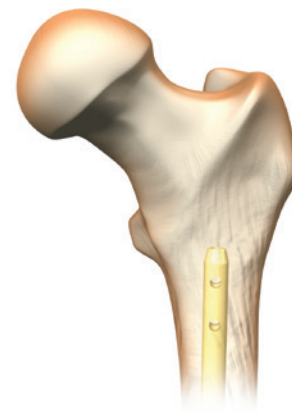

Figure 25
1. In the A/P view, confirm that the nail has been inserted to the desired depth (Figure 25).